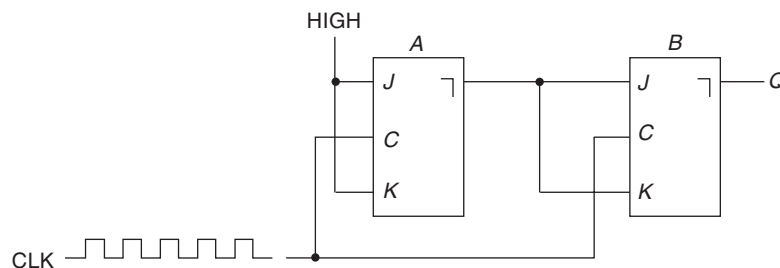

Fig. 12.70
37. Sketch the output of the flip-flop in Fig. 12.70 in proper relation to the clock. The flip-flops are initially Reset.